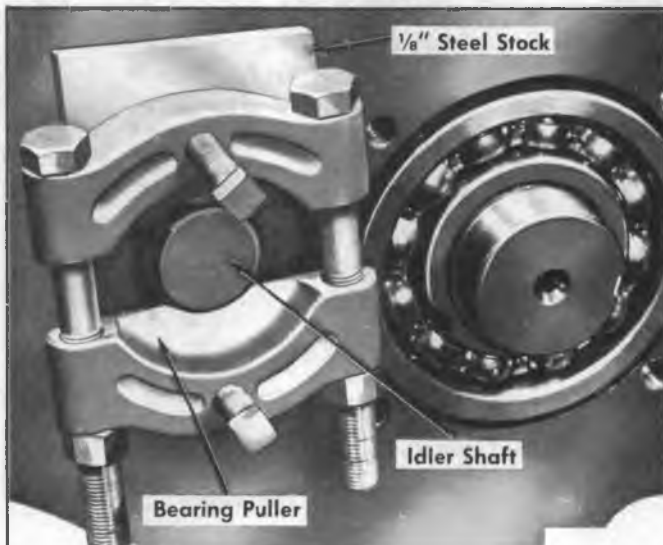

Fig. 4P-Removing Reverse Idler Shaft
2. Using a suitable puller in slot in end of reverse idler shaft, pull shaft out of transmission case and reverse idler gear (fig. 4P).